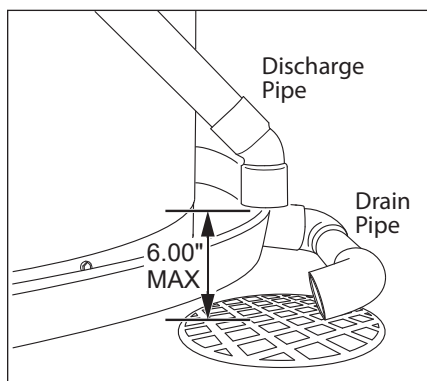

Figure 17 - The end of the T&P Relief Valve discharge pipe must stop no more than 6" (15 cm) above a floor drain or outside.
- 3** Terminate the discharge pipe a maximum of 6" (15 cm) above a floor drain, or outside the building (Figure 17). Do not drain the discharge pipe into the drain pan; instead pipe it separately to an adequate drain. In cold climates, terminate the discharge pipe inside the building to an adequate drain. Outside drains could freeze and obstruct the drain line. Protect the drain from freezing.